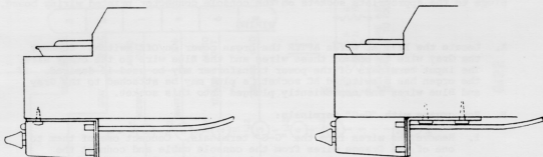

Figure 1
1. Select a location under the keyboard shelf where the control is to be mounted, either left or right, as the organist prefers. Keep in mind that the cable from the control must pass into the interior of the organ. The mounting bracket may be reversed, if desired, by removing the four corner screws, turning it around, and re-fastening it to the plastic case with the four corner screws. This enables the control to be mounted to the front key strip if the keyboard shelf is metal, or the keyboard shelf if it is made of wood. See Figure 1 and Figure 2.